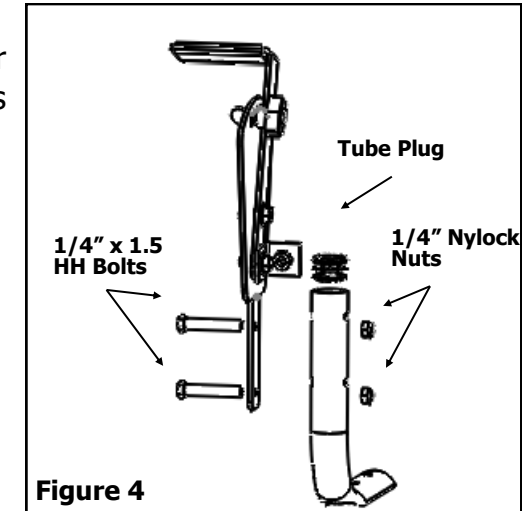

Figure 4
4. Gently tap Tube Plug into top of T-Handle. Attach the Number Pad to the top of the T-Handle using 1/4" x 1.5" Hex Head Bolts and 1/4" Nylock Nuts. Slide Grip onto Adj. Handle. See Figure 4.